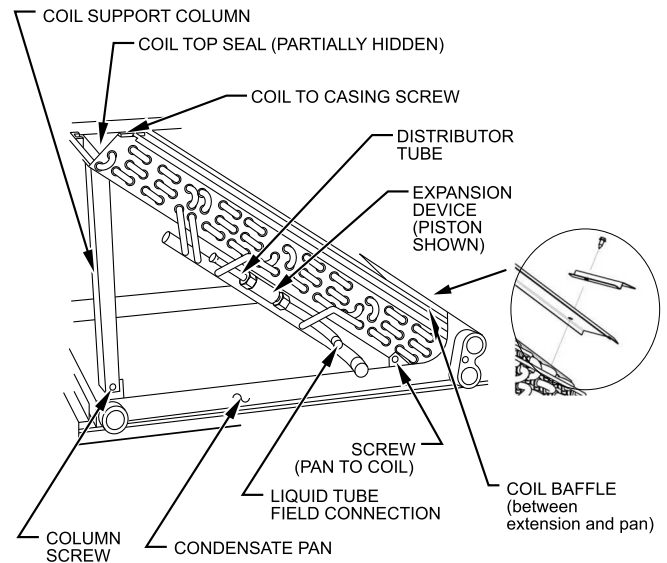
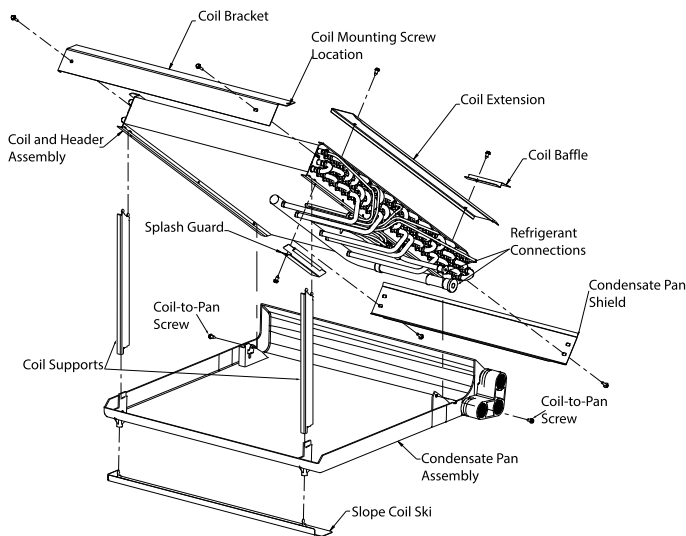

Fig. 32 – Slope Coil Component Location (Prior to 1996) ^{A14304}
Fig. 33 – Slope Coil Component Location (1996 and Later) ^{A14307}
8. Place assembly on a flat surface. On units manufactured prior to 1996, remove two screws securing coil support columns to pan (Fig. 32).
10. Remove two screws securing coil to condensate pan (Fig. 32 and Fig. 33).
12. Attach new painted Top Seal to new coil using brass colored screws included with packaging (Fig. 32 and Fig. 33).
13. Remove screw at bottom of coil extension and reuse to attached Coil Baffle in same location. Long side of baffle toward pan (Fig. 32 and Fig. 33).
15. Install new coil pan assembly into unit and secure with one screw previously removed from unit casing (Fig. 32).